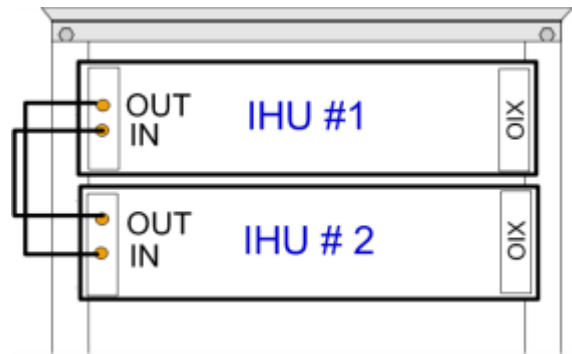

Figure 4-20. Example of Pilot Clock Connections between Two IHU Units
- Referring to Figure 4-20, use the QMA/QMA jumper cables (PCKG47 provided with each RIX) to connect the **REF OUT** and **REF IN** ports of the RIX modules in the IHU chassis.